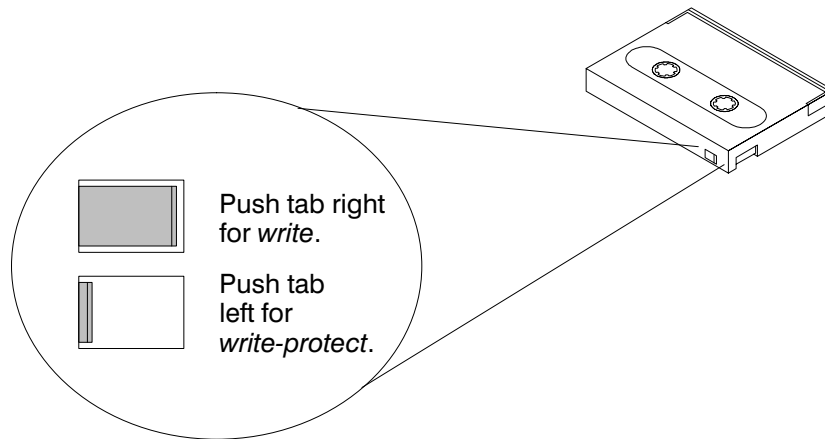

Figure 2–2. Setting the Write-Protect Tab on a DDS Tape
To protect information on a data cassette from being overwritten, set the write-protect tab to the *write-protect* position, as shown in Figure 2–2.
3. To remove the data cassette, press and release the eject button on the front of the drive, as shown in Figure 2–3. The Tape LED on the drive flashes on and off. Ten to twenty seconds later, the data cassette slides partway out of the drive. Remove the cassette from the drive.